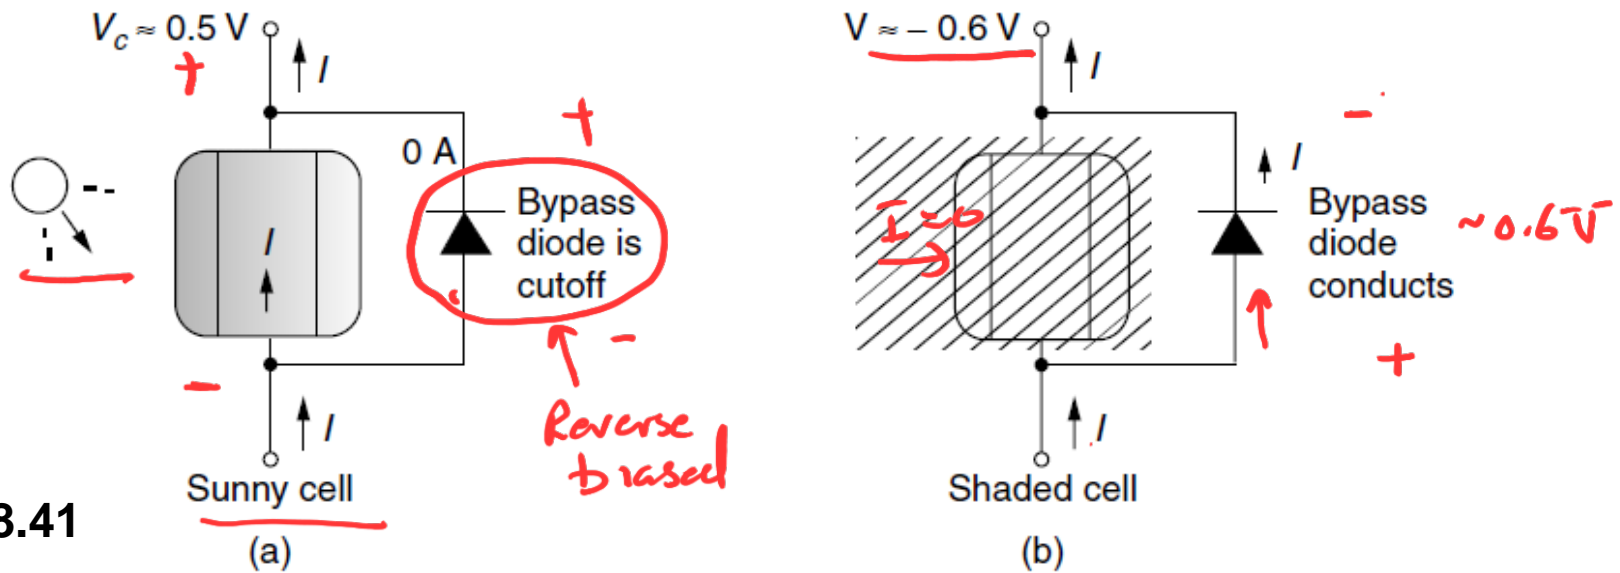

Figure 8.41
- The voltage drop problem in shaded cells could be corrected by adding a bypass diode across each cell, as shown in Fig. 8.41.
- The voltage drop problem in shaded cells could be corrected by adding a *bypass diode* across each cell, as shown in Fig. 8.41. When a solar cell is in the sun, there is a voltage rise across the cell so the bypass diode is cut off and no current flows through it—it is as if the diode is not even there.